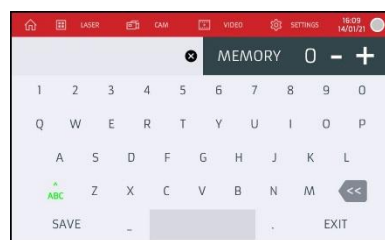

Fig. 8-28 – Program name input page
- 8 When pressed, this control area allows the operator to change the name of the program (Fig. 8-28) and save it in the desired position (in the memory index).